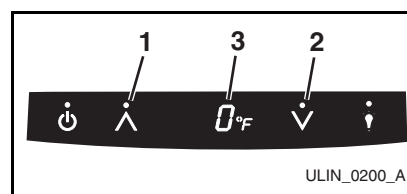

Figure 13
- a. Touch and hold the UP ARROW button (**Figure 13, 1**).
- b. Touch and release the DOWN ARROW (**Figure 13, 2**) button three times, then release the UP ARROW button (**Figure 13, 1**).
- c. The display (**Figure 13, 3**) will switch to "0" to confirm the thickness adjustment mode has been selected.
3. Touch and release the LIGHT (**Figure 13, 4**) button key to exit the ice thickness adjustment mode.